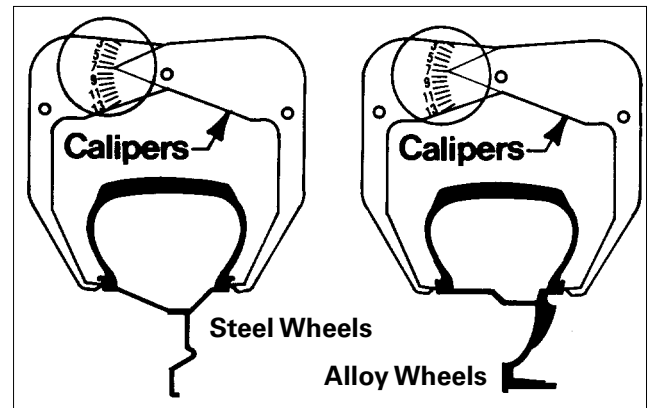

Figure 42 - Caliper Location Diagrams
**W = Width** The width of the wheel at the rim flanges, measured with the calipers as shown in figure 42.